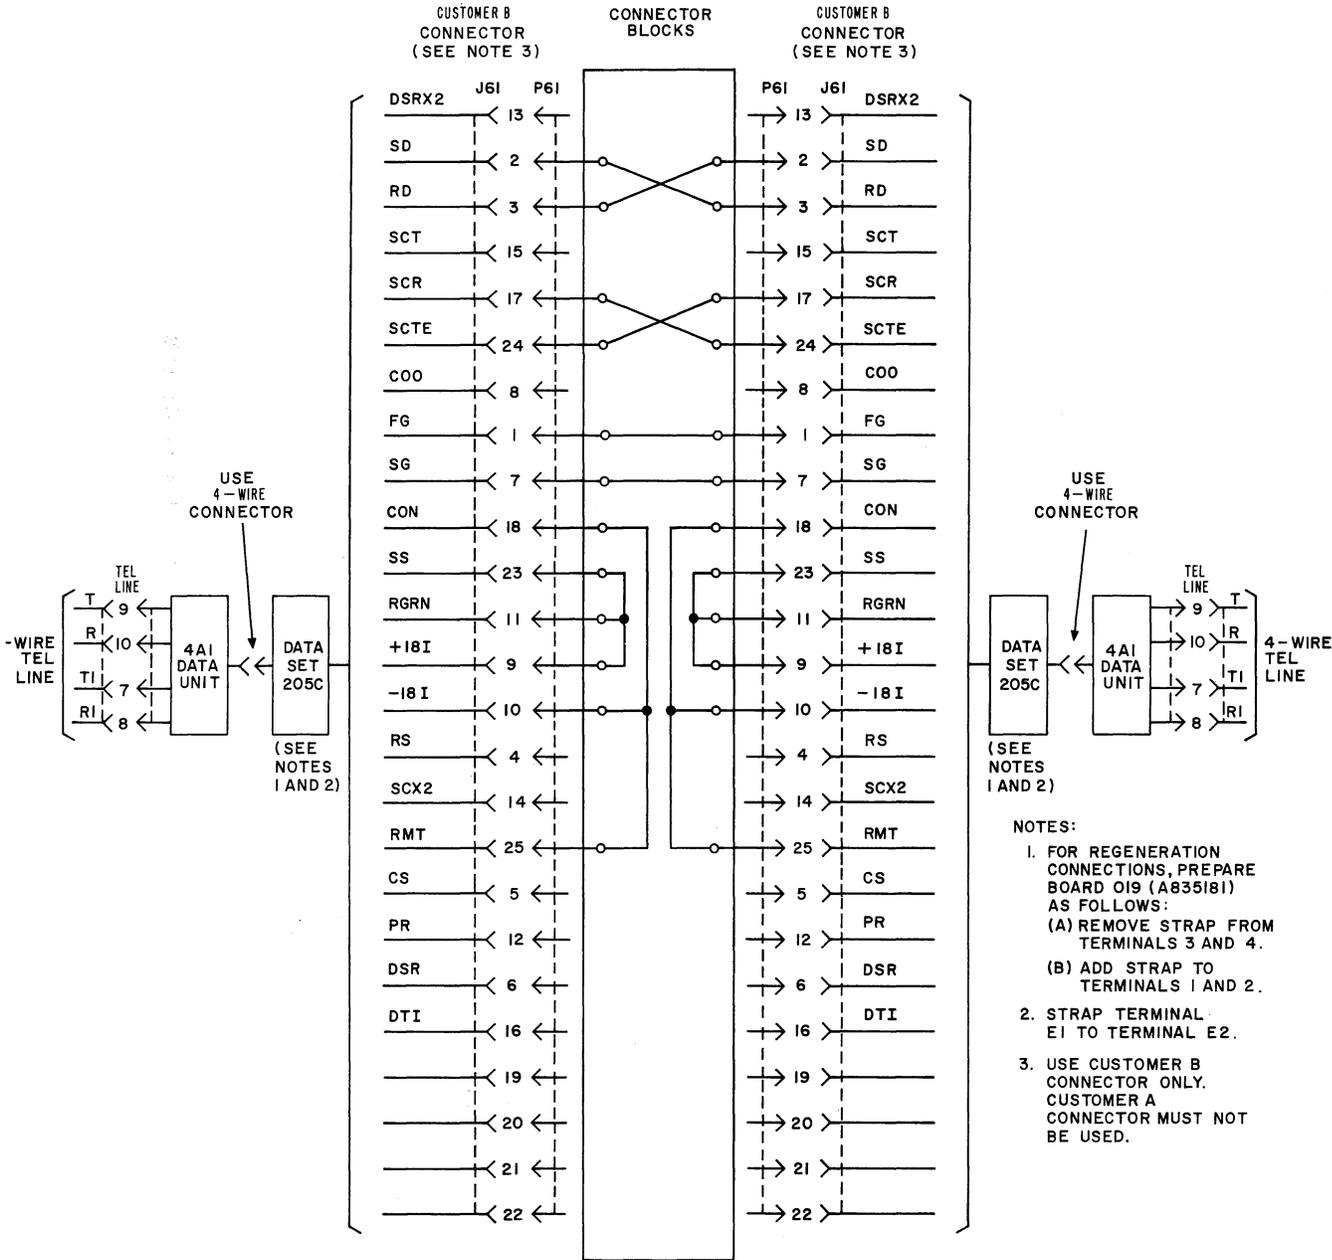

Fig. 1—Regeneration Connections at Connector Block
**3.03** When required, the Data Set 205C2 can be interconnected with a second Data Set 205C2 to make a regenerative repeater. Interconnections between the two data sets are established through CUSTOMER B interface connections as shown in Fig. 1.